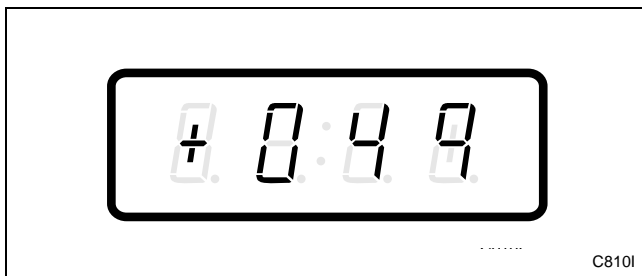

Figure 58
3. Press the DELICATES (+) or the COLD (-) keypad to scroll through the programmable options until “+049” appears in the VFD. Refer to *Figure 58*.